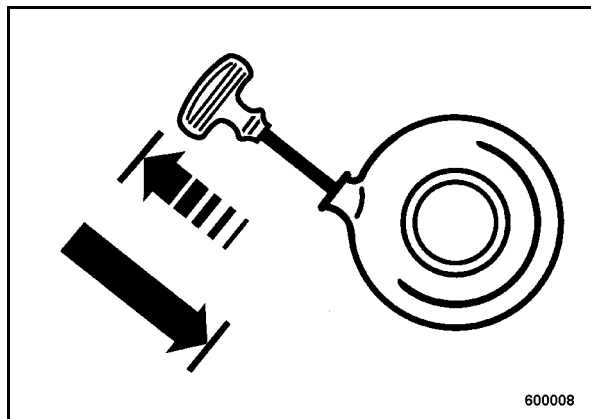

Fig. 19
- Slightly pull the starter handle (Fig. 19), until resistance can be felt (compression pressure), but do not pull out completely.